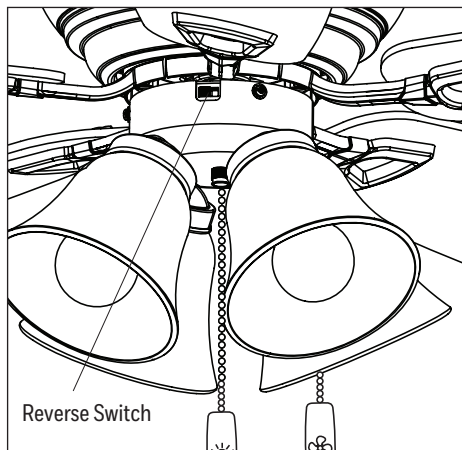

Figure 4.2
2. Use the reverse switch located on the switch housing to optimize your fan for seasonal performance. **In warmer weather**, push the reverse switch left which results in downward airflow creating a wind chill effect. **In cooler weather**, push the reverse switch right which results in upward airflow that will help move hot air of the ceiling (Figure 4.2).